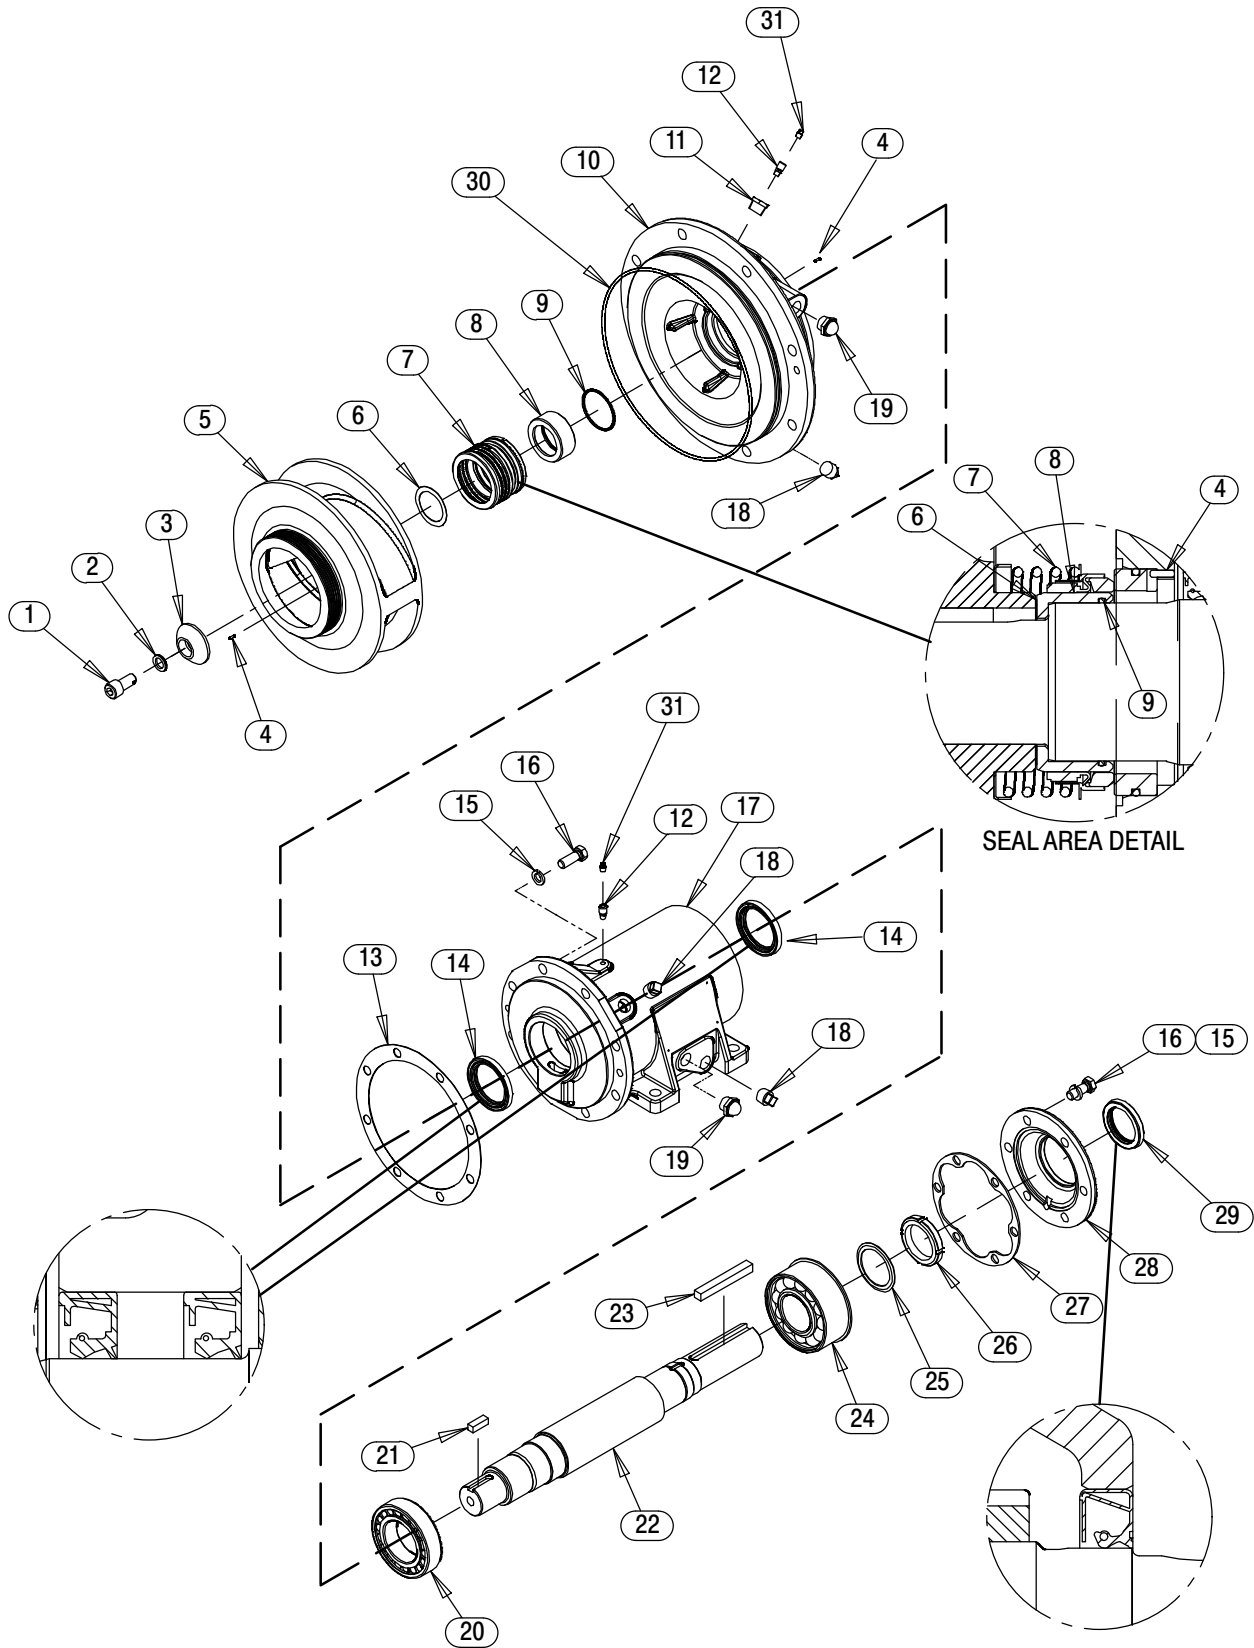

Figure 2. Repair Rotating Assembly
(Figure 2)
(Figures 2 and 3)
Further disassembly requires separating the rotating assembly from the power source. Remove the coupling securing the rotating assembly to the power source and remove the key (23, Figure 2).